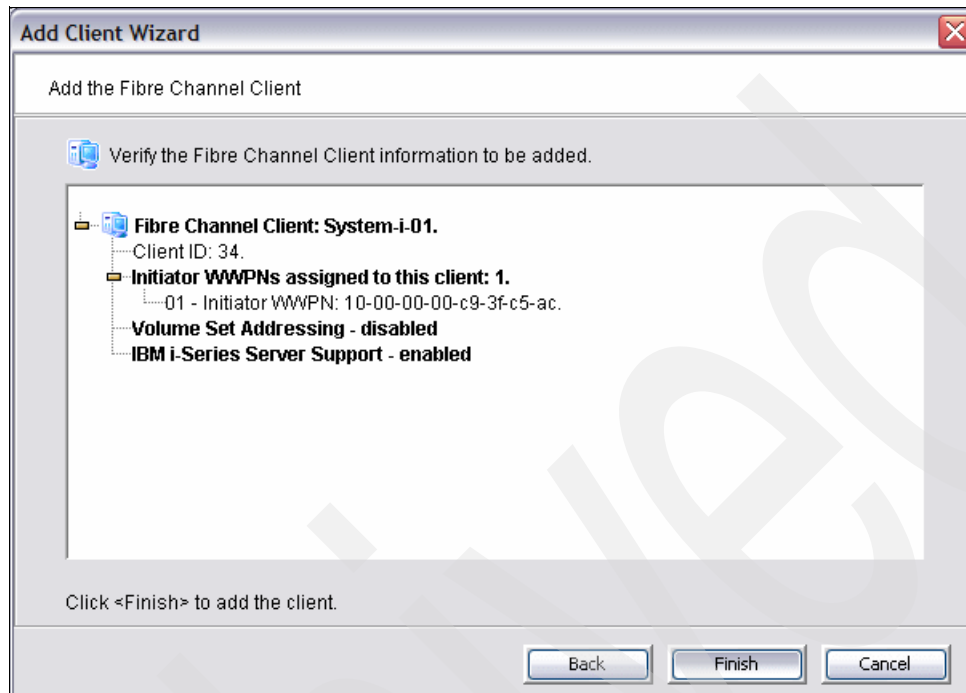

Figure 5-48 Add Client Wizard: Summary panel
5. The Add the Fibre Channel Client panel (Figure 5-48) shows a summary of your selections. If the information is correct, click **Finish**, and your SAN client is added. If the information is not correct, click the **Back** button to make any necessary corrections.